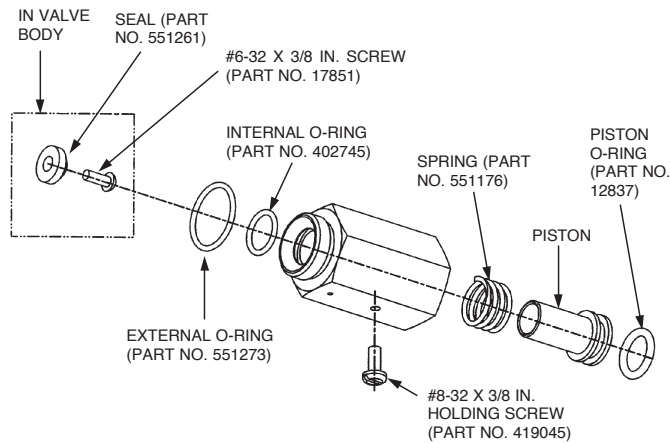

FIGURE 2-4
- ▶ After system discharge and at hydrostatic test intervals, the pressure regulator must be rebuilt to ensure proper future operation. The Pressure Regulator Rebuilding Kit (Part No. 551061) should be used. It includes all components and instructions necessary to properly rebuild the regulator. See Figure 2-4.